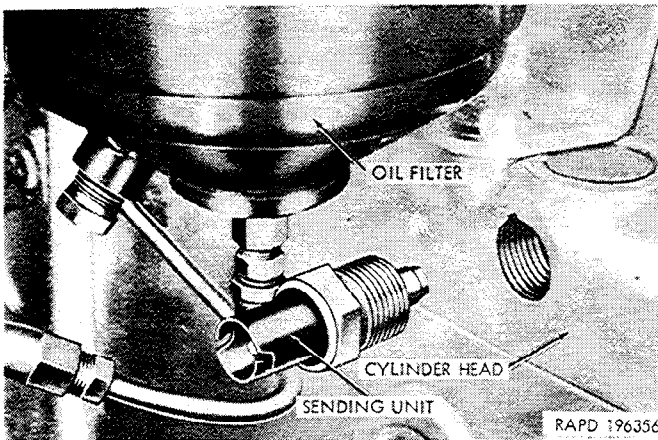

Figure 2-122. Water temperature gage sending unit removed.
b. Removal (fig. 2-122).
(1) Drain sufficient coolant from the cooling system to lower the level to below the cylinder head.
(1) Coat the threads of the sending unit (fig. 2-122) with liquid type gasket cement, install the unit in the cylinder head, and tighten.
(2) Connect the sending unit cable at the cable connector.